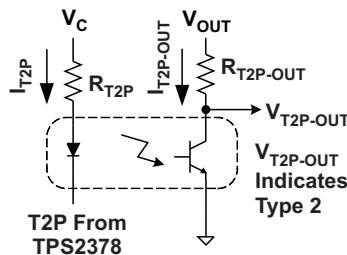

Figure 25. T2P Interface
- As shown in Figure 25, let $V_C = 12\text{ V}$, $V_{OUT} = 5\text{ V}$, $R_{T2P-OUT} = 10\text{ k}\Omega$, $V_{T2P-OUT} = 400\text{ mV}$